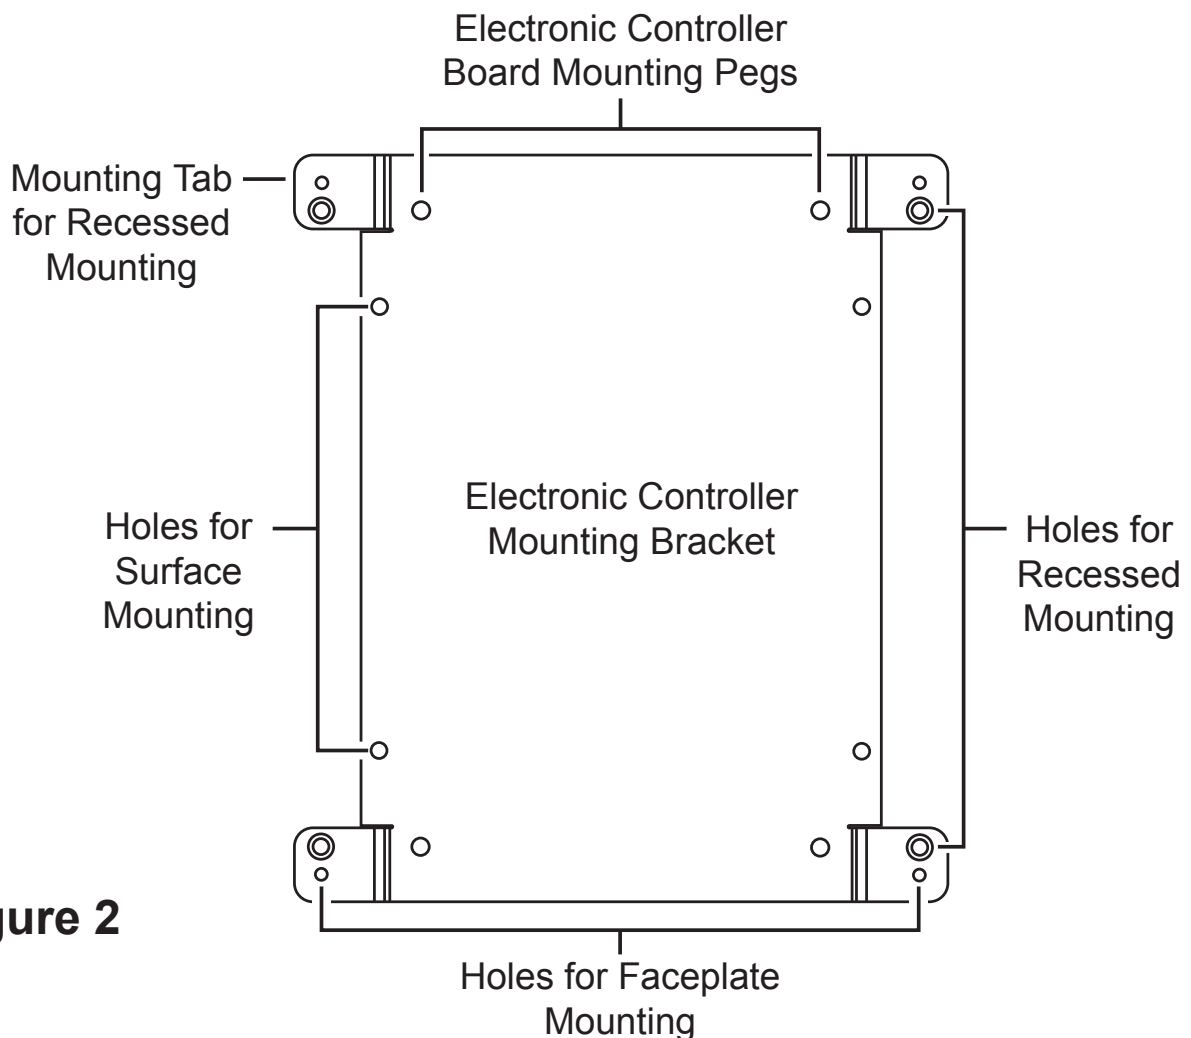

Figure 2
Figure 2 for the location of the Surface Mounting Holes.
3. To recess mount the Electronic Controller, cut out a 7.25 inches W x 10.25 inches H opening and place the Mounting Bracket in the cut-out. Secure all four (4) Mounting Tabs to the wall. Reference Figure 2 for the location of the Mounting Tabs and the Recess Mounting Holes.
4. Once all wiring for the Aqua-Hot is complete, attach the Face Plate to the Mounting Bracket (reference Figure 2) and secure it with four (4) screws.